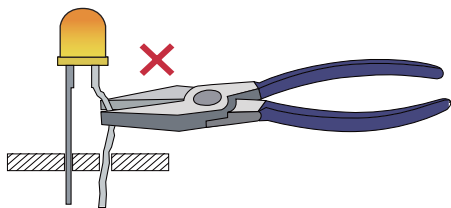

Fig. 8
5. During lead forming, use tools or jigs to hold the leads securely so that the bending force will not be transmitted to the LED lens and its internal structures. Do not perform lead forming once the component has been mounted onto the PCB. (Fig. 8)